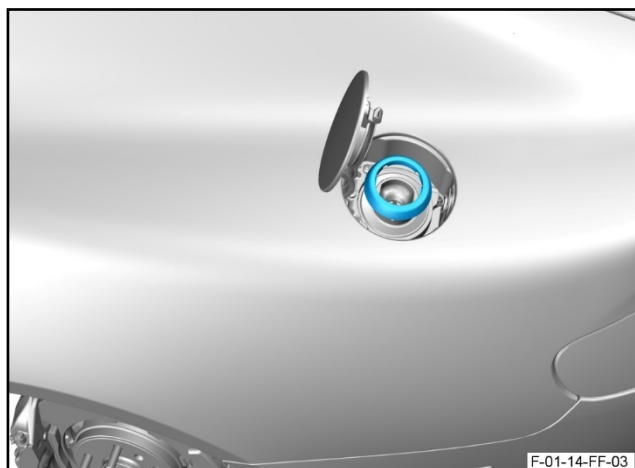

Figure 12
27. Put the fuel filler bezel into position (refer to Figure 12).